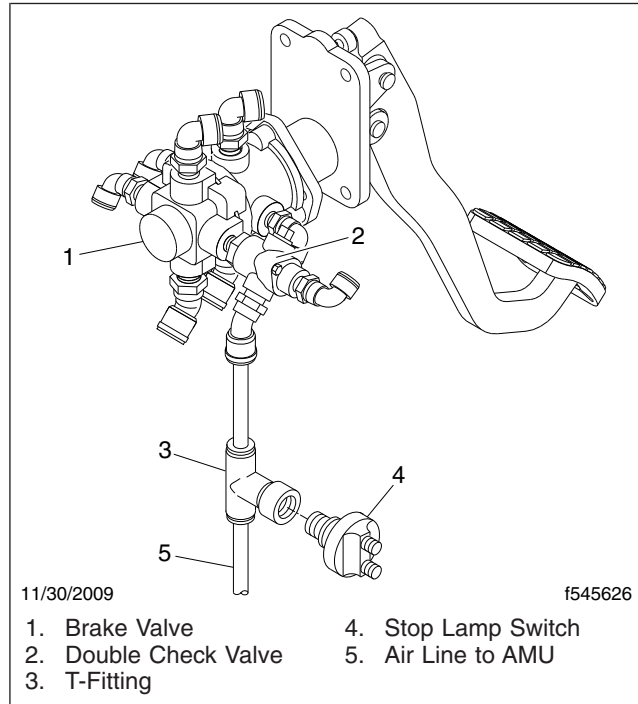

Fig. 1, Stop Lamp Pressure Switch Installation
3. Install the stop lamp switch in the tee fitting. See Fig. 1.